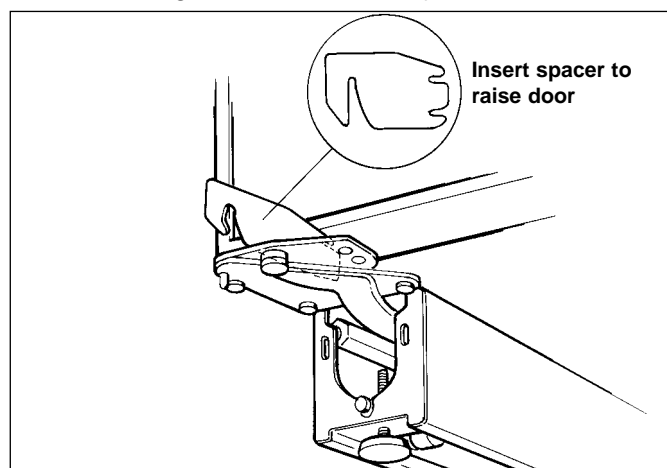

Figure 2-22. #0183100 Hinge Spacer Installation
**NOTE:** If a side-by-side unit is properly installed and leveled, and the doors properly adjusted yet one door lines up higher than the other, a bottom hinge spacer (part no. 0183100) is available. The door hinge screws of the lower door hinge are loosened and the hinge spacer(s) inserted between the bottom door trim and the bottom door hinge (Figure 2-22). This will raise the door slightly. The door hinge screws are then tightened back down. Bottom hinge spacer (part no. 0183100) will **NOT** work on over-and-under units.